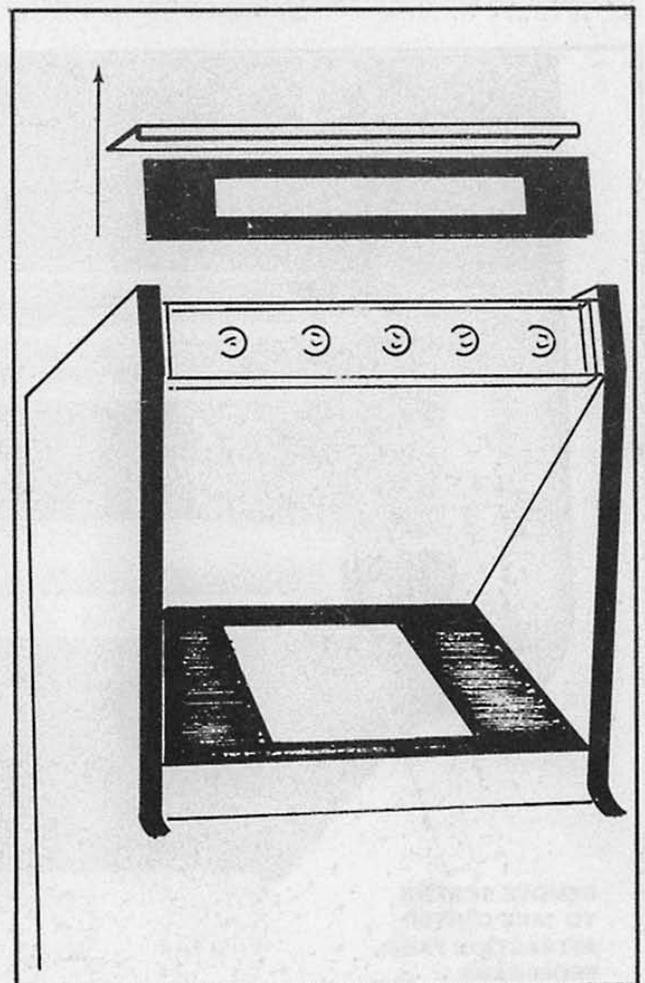

Figure 4-17 Opening Attraction Panel — Mini
2. **MINI MODEL.** See Figure 4-17.